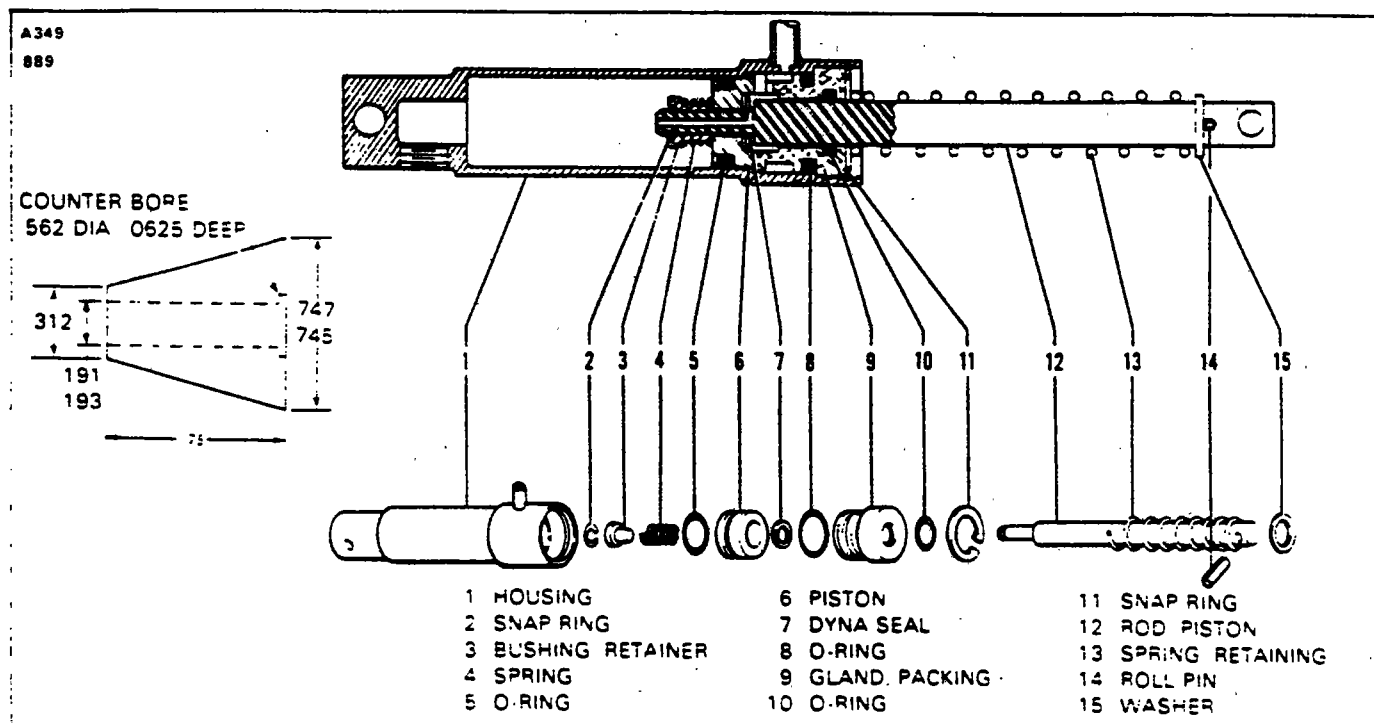

Figure 7A-20. Brake Master Cylinder (Hand/Parking Brake)
- a. Install new "O" rings on the inside and outside of the packing gland (9) and on the outside of the piston (6). (When installing teflon "O" ring (5) on piston, it is recommended that it be installed with the use of a cone placed against the piston. The cone may be constructed of plastic or metal with dimensions shown in Figure 7A-20.)
- b. To assemble the piston rod assembly, install on the rod (12), in order, the return spring retainer washer (15), return spring (13), packing gland (9) with "O" rings, seal (10), piston (6) with "O" ring, spring (4) and retainer bushing (3). Secure these pieces with the small ring (2) on the end of the rod.